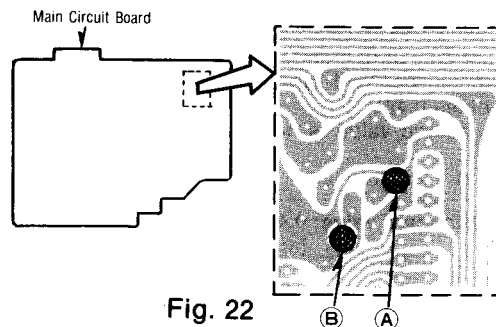

Fig. 22
3. If the measured value is not within standard value, correct it by opening or closing the jumper junctions (A) and (B) as follows (See Fig. 22):